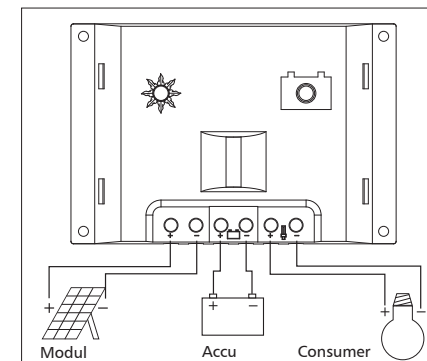

Fig. 2: Connection
- For installation see figure 2.